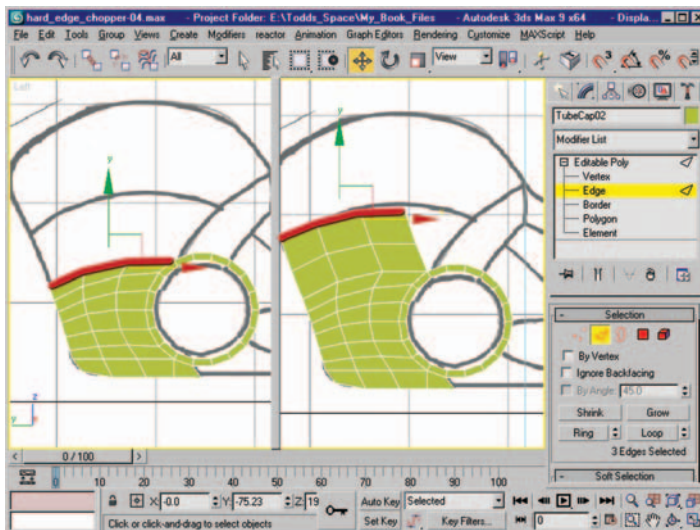

Figure 8.8 Edge selection before and after shift-dragging.
9. Select the three edges shown in Figure 8.8 (left) and use shift-drag to create two new rows of polygons that roughly match the blueprints (Figure 8.8, right).